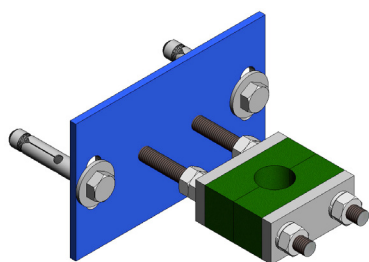

Fig. 12
- A stem guide-support is recommended (Fig. 12) every 1.5 m.